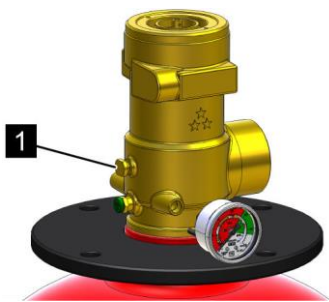

Fig. 83: Control connection
5. ➤ Screw the adapter into the control connection (Fig. 83/1) of the valve of the "pilot cylinder" extinguishing agent container and tighten with $8 \pm 2 \text{ Nm}$ ($5.9 \pm 1.5 \text{ ft-lb}$).